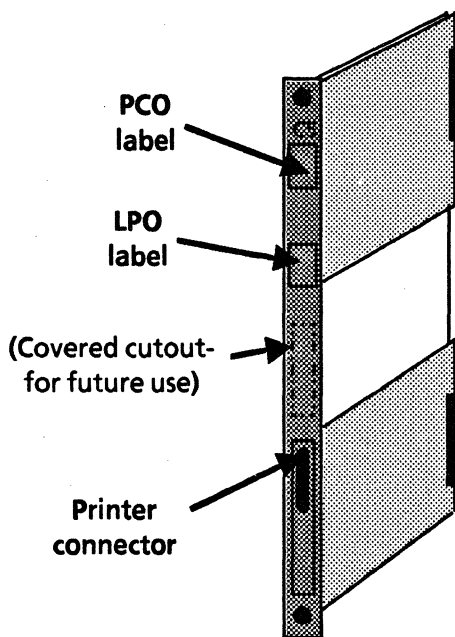

Figure 2-6 C5 shield (end view) with labels and printer connector
- Two PCO labels are supplied with the LPO kit. Select the PCO label that matches the one on the C5 shield from which you removed the PCO Printed circuit board. Attach this label to the spine of the new C5 shield, just below the "C5" marking (Figure 2-6).